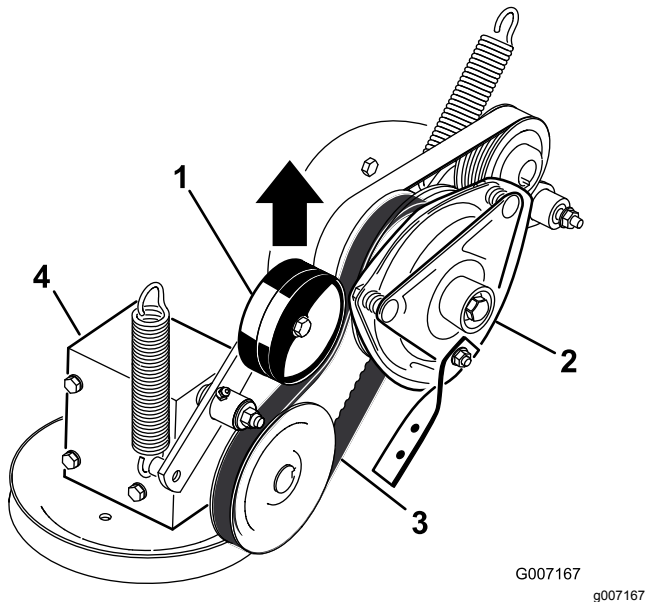

Figure 68
5. Pull up on the spring-loaded idler pulley for the PTO-drive belt and remove the belt from the clutch pulley (Figure 68).
16. Install the rubber clutch strap to the mower frame with the 2 previously removed bolts and nuts (Figure 68).
17. Pull up on the spring-loaded idler for the PTO-drive belt and install it onto the clutch pulley (Figure 68).